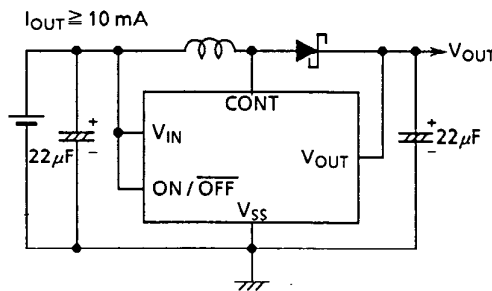

Figure 12
The difference between Figures 12 and 13 is a  $V_{IN}$  connection. The connection to be used depends on the purpose. The connection shown in Figure 12 is suitable for high output current ( $\geq 10$  mA). The connection shown in Figure 13 is suitable for low output current ( $I_{OUT} < 10$  mA) because minimum operating supply voltages is reduced. (See the supply voltage-output voltage characteristics on the next page. Use RCH855-47  $\mu H$  manufactured by Sumida Electric for the coils and D1NS4 for the external diode.)
$V_{IN} \neq V_{OUT}$  (in the circuit shown in Figure 12)
- Do not apply a supply voltage of less than 0.9 V at  $V_{IN}$  in the standard circuit shown in Figure 12. If a voltage of less than that is applied, the input current may increase rapidly. The input current may increase rapidly in the application of a low supply voltage and a low load current ( $I_{OUT}=20 \mu$ A) when the S-8436 series is used.